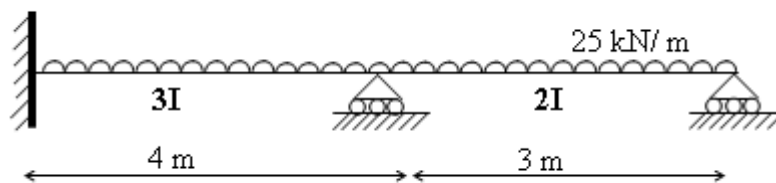

Figure 5:
4. A continuous beam is supported and loaded as shown in figure 5. Draw the shear force and bending moment diagrams with salient features. [15]